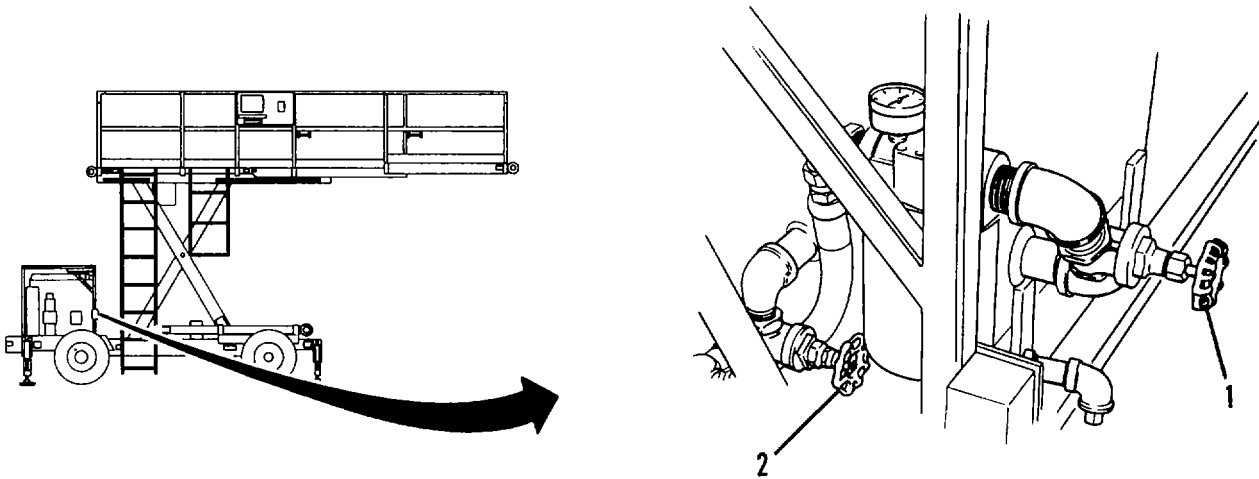

Figure 4-44. Gate Valves.
(10) Close suction gate valves (1 and 2, Figure 4-44) fully.